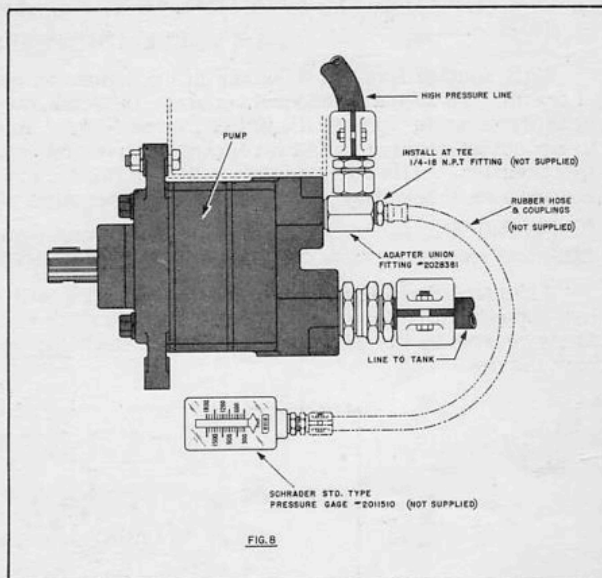

FIG. 8
## OIL PRESSURE SETTING AND ADJUSTMENT (Figure 8 and 9)
1. With P.T.O. disengaged, remove 1/4" pipe plug from adapter union fitting on pump, (Figure 8), and install pressure gage and hose as shown.